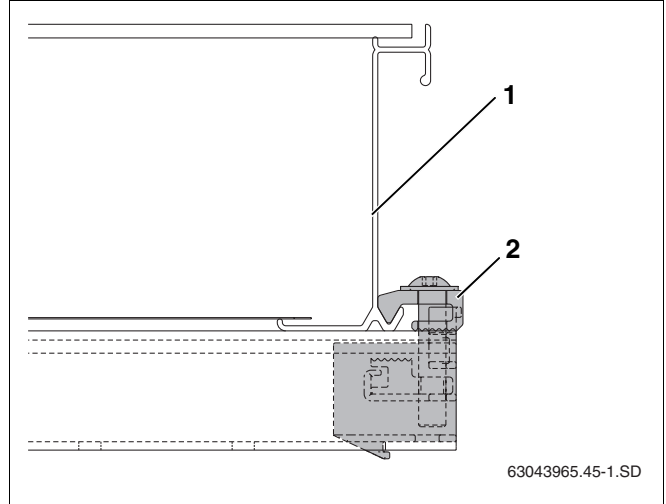

Fig. 44 One-sided collector clamp screwed in place
- ▶ Carefully push collector (Fig. 44, **Item 1**) up against the single-sided collector clamp and align horizontally.
- ▶ Screw in single-sided collector clamp using size 5 Allen key (Fig. 44, **Item 2**).
The grip (Fig. 44, **Item 2**) on the collector clamp now grips the lower collector edge.